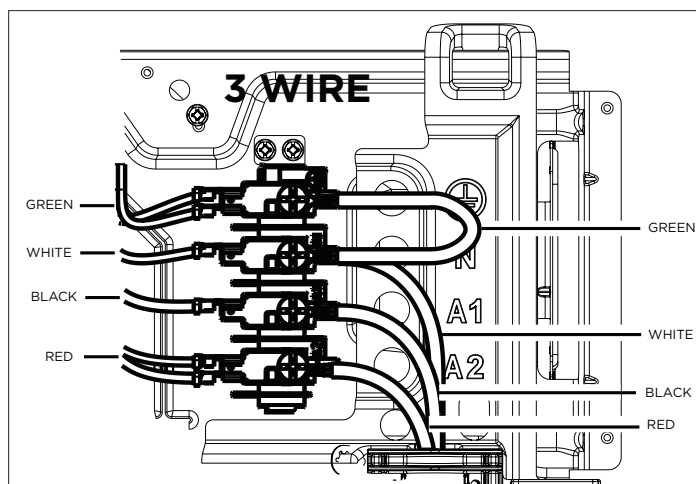

Figure 9: 3 Wire Power Supply Cord Connection
5. Make the remaining 2 connections as per the color coding shown in figure 9. Make sure the wire colors are matching after all connections are made.
8. Make sure the wire colors are matching after connections are made as per figure 9.